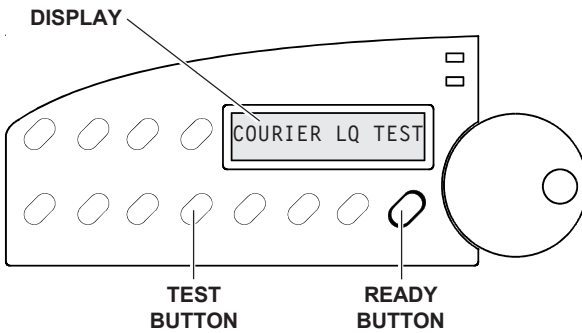

Figure 2-12. Printing a Self Test
3. To print an 8-inch-wide test, press the Test button, as shown in figure 2-12. (Or, to print a test as wide as the WIDTH parameter setting on the Setup menu, press the Test button twice.) The paper will feed into the printer, the TEST message will blink, and the self test will begin printing.